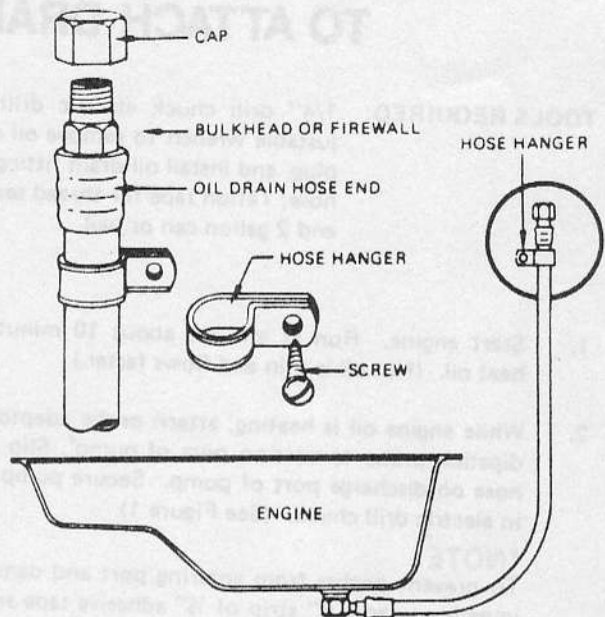

Figure 5
7. Locate drain hose on vertical bulkhead or firewall and secure with plastic hose hanger. Do not kink hose or locate so that it touches the engine. Installation is now complete. (See Figure 5)